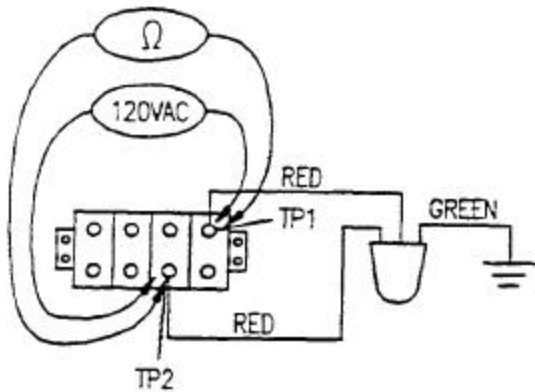

Figure 6-5. Drain Solenoid Valves
4. Refer to Figures 6-5 and 6-6, and connect the voltmeter leads to test point 1 and test point 2. With these connections, check for 0 VAC across the drain solenoid.
5. Refer to Figures 6-5 and 6-6. Connect the ohmmeter leads to test point 1 and test point 2, and check the resistance across the drain solenoid.